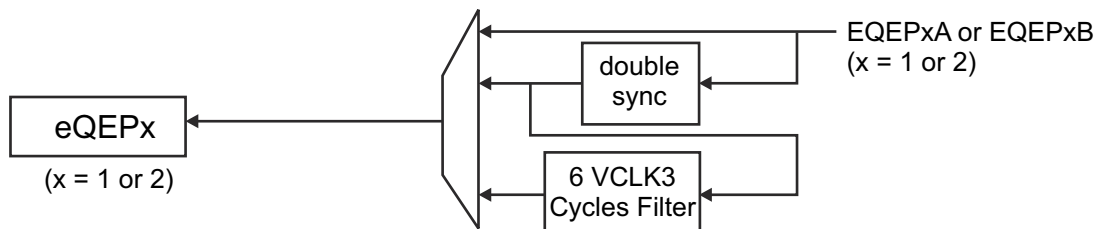

图 8-8. eQEPx Input Synchronization Selection Detail
A. For more detail on the eQEPx input synchronization selection, see 图 8-8.
图 8-8 shows the detailed input synchronization selection (asynchronous, double-synchronous, or double synchronous + filter width) for eQEPx.